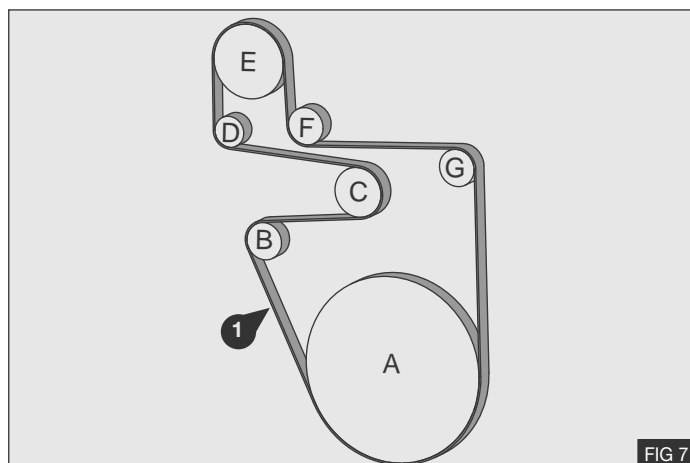

FIG 7
1. Fit the supplied poly groove drive belt (1) to the configuration shown - Fig 7.